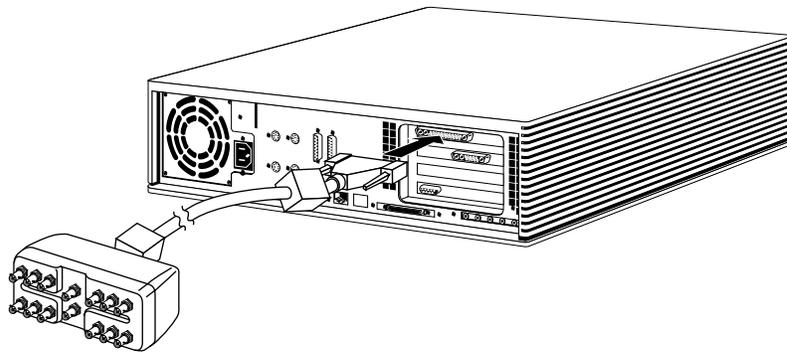

Figure 2-1 Attaching the Breakout Box Cable Connector to the ICO Board I/O Connector
1. Attach the breakout box cable connector to the connector on the ICO board. See Figure 2-1.